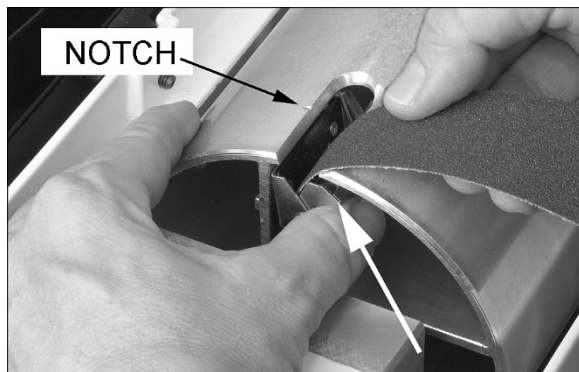

Figure 5-4
2. Press fastener lever (Figure 5-4) on outboard (left) end of drum, and insert tapered end of abrasive through slit in fastener, as shown. Align tapered edge of abrasive strip with left edge of drum. Insert enough strip so that the